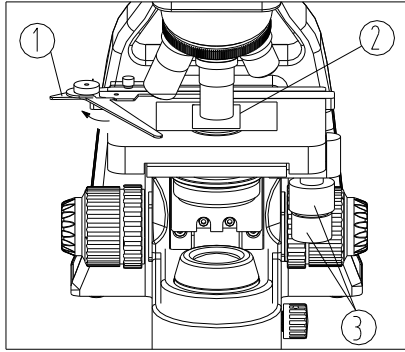

Fig. 15
1. Push the lever ① of the specimen holder backwards.
2. Place the slide on the stage with the cover glass ② facing upwards. Gently release the lever ① and allow the clip to slowly close onto the slide and clamp the slide firmly (see Fig.15).
3. Rotate the X and Y-axis knob ③ of the stage, and move the specimen to the center (aligned with the center of objective).